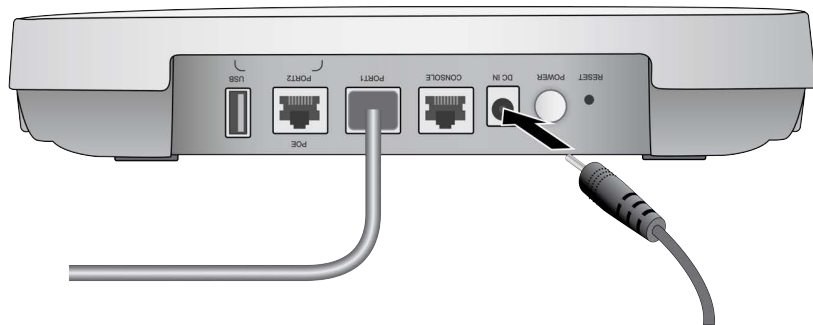

Figure 22. Connecting an AC Power Adapter to the Access Point
2. Plug the DC connector of the power adapter into the DC IN jack on the access point. Refer to Figure 22.